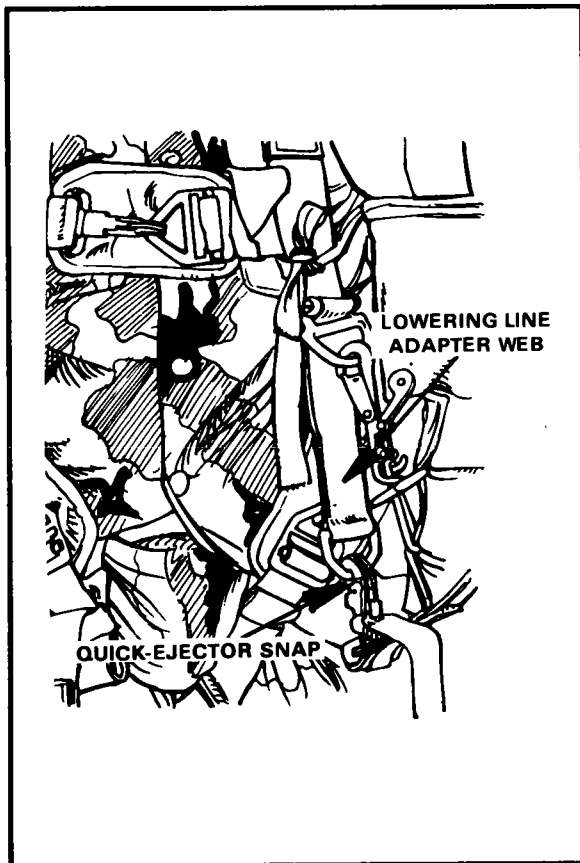
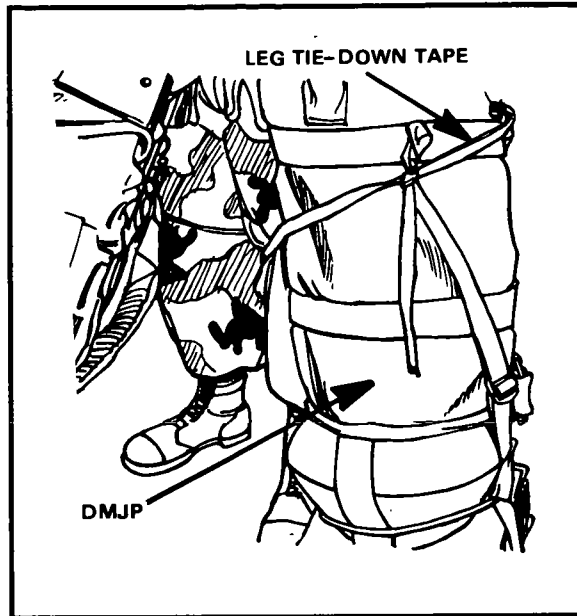

Figure 6-44. HPT lowering line attached.
Figure 6-45. Lower tie-down.
b. The lower tie-down tape is routed around the DMJP and the parachutist's left leg (Figure 6-44). A single-loop bowknot is tied on the front of the DMJP where it is easy for the parachutist to reach (Figure 6-45).